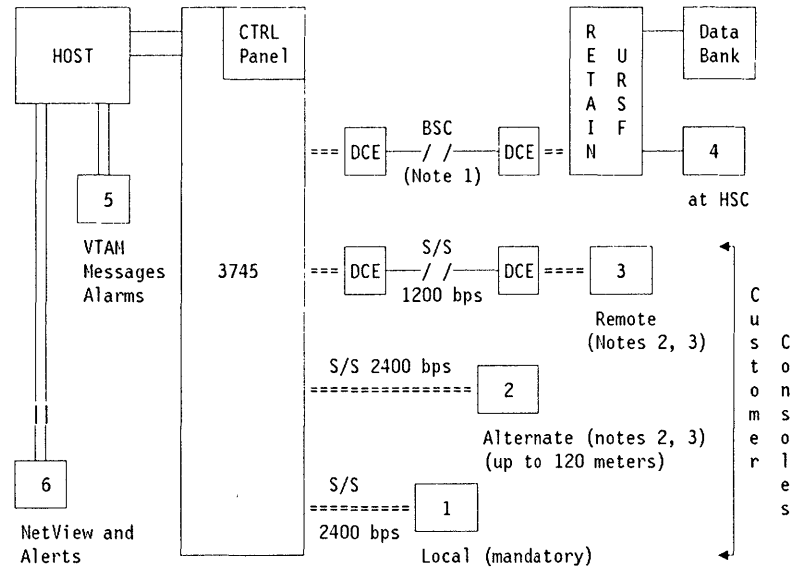

Figure 1-17. Remote and On-site Service By the CE
2. The local console is mandatory and all the other consoles shown in Figure 1-17 need not be present, depending on the customer's installation.